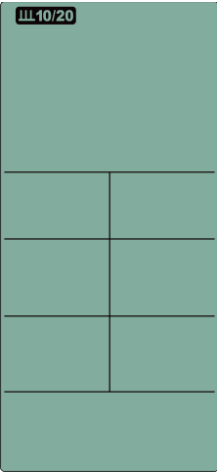

Figure 7
- 2. After powering on, it enters the year setting mode. Use UP and DOWN to adjust, 8. Quick Start : press ENTER to confirm the setting, and enter the standby screen (Figures 7~19).